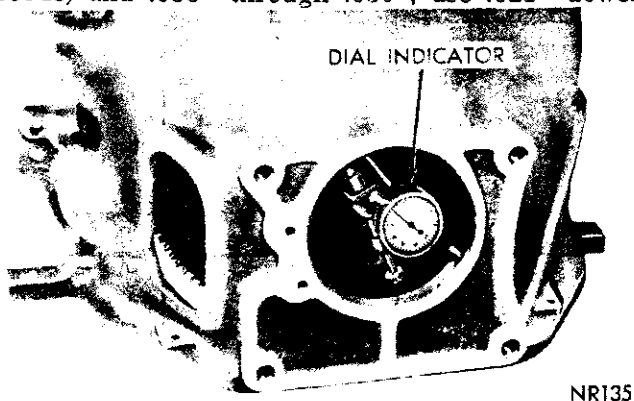
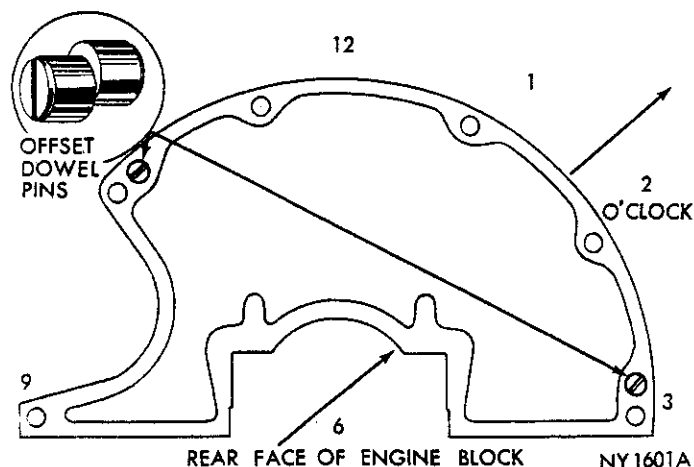

Fig. 13—Measuring Clutch Housing Bore Runout
Fig. 14—Offset Dowel Diagram (6 cyl.)
(1) Replace one flywheel to crankshaft bolt with a bolt about 3 inches long. Mount Dial Indicator C-3339 on this bolt with a "C" clamp (Fig. 13).
(2) With C-771 Flywheel Turning Tool, turn flywheel while noting dial indicator needle deflection. Bore out-of-round must not exceed .008 inch maximum total indicator reading, or .004 inch, one-half total indicator reading.
(3) Excess bore runout can be corrected by installing correct size offset dowels (Fig. 14 or 15). These dowels are available in three offset sizes and they **must be** installed in pairs of the same size: .007 inch, Part Number 1736347; .014 inch, Part Number 1736348 and .021 inch, Part Number 1736353.
(4) To illustrate recommended correction procedure, assume total indicator reading is .020 inch, in a direction which approximates 2 o'clock on engine block (Figure 14 or 15, depending on model).
(5) In this case, housing is off crankshaft centerline .010 inch (one-half total indicator reading) which is .006 inch greater than allowable limit of .004 inch (one-half total indicator reading).
(6) In the case under consideration, installation of two .007 inch dowels will bring runout within the allowable limits of .004 inch or .010 inch minus .007 inch (dowels) which equals .003 inch runout.
(7) The amount of eccentricity of the dowel will produce a total indicator reading change of double the dowel eccentricity, therefore, select a pair of dowels with the nearest to one-half of total indicator runout of bore. For runout (total indicator reading) of .009" through .020", use a .007" dowel (No. 1736347); .022" through .034", use .014" dowel (No. 1736348) and .036" through .050", use .021" dowel